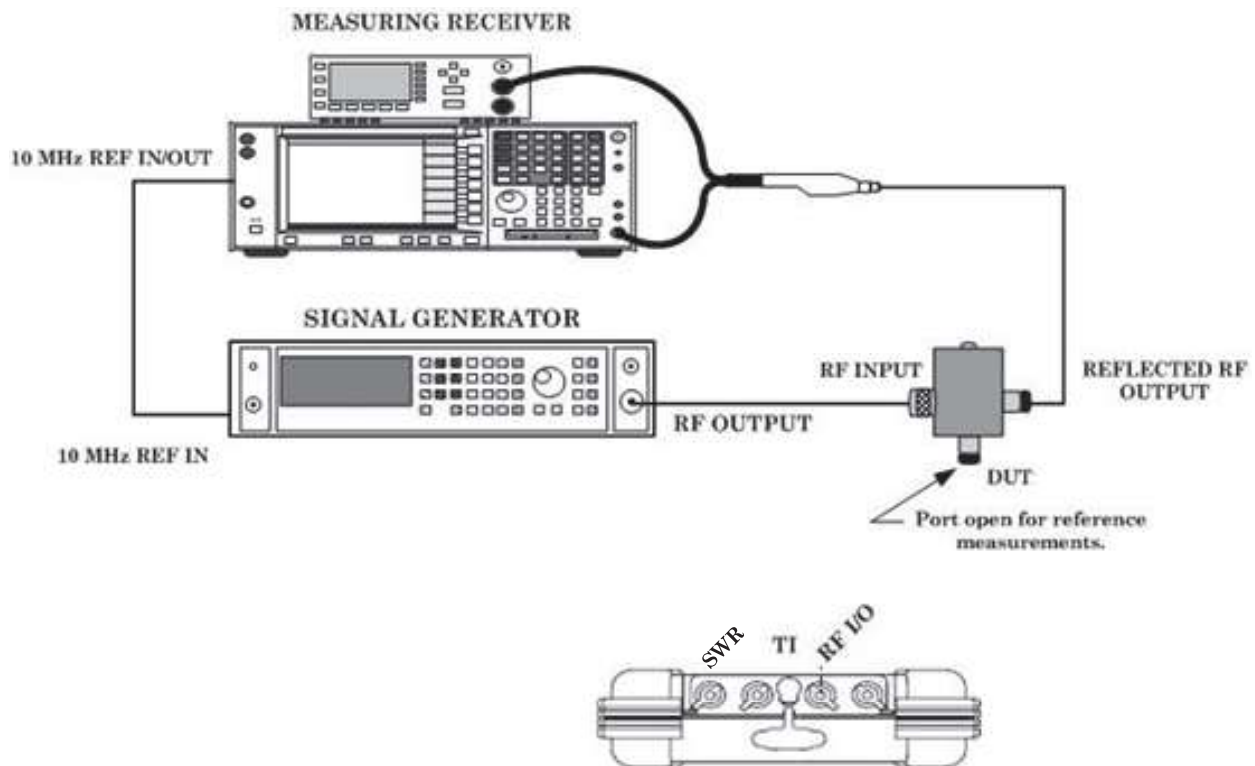

Figure 1. VSWR Setup.
(1) Connect equipment as shown in figure 1 with short connected to the Device Under Test (DUT) port of VSWR bridge.
(2) Set signal generator output level to 0.00 dBm and frequency to first frequency listed in table 10.
(3) Configure measuring receiver, in spectrum analyzer mode, to measure first frequency listed in table 10.
(4) On measuring receiver, press PEAK SEARCH, MARKER, and [DELTA] to set up delta marker reference measurement.
(5) Remove short installed on VSWR bridge Device Under Test (DUT) port and connect VSWR bridge Device Under Test (DUT) port to TI **RF I/O** port.
(6) Measuring receiver delta marker will indicate within limits in table 10.
(7) Repeat steps (1) through (6) above for the remaining settings in table 10.